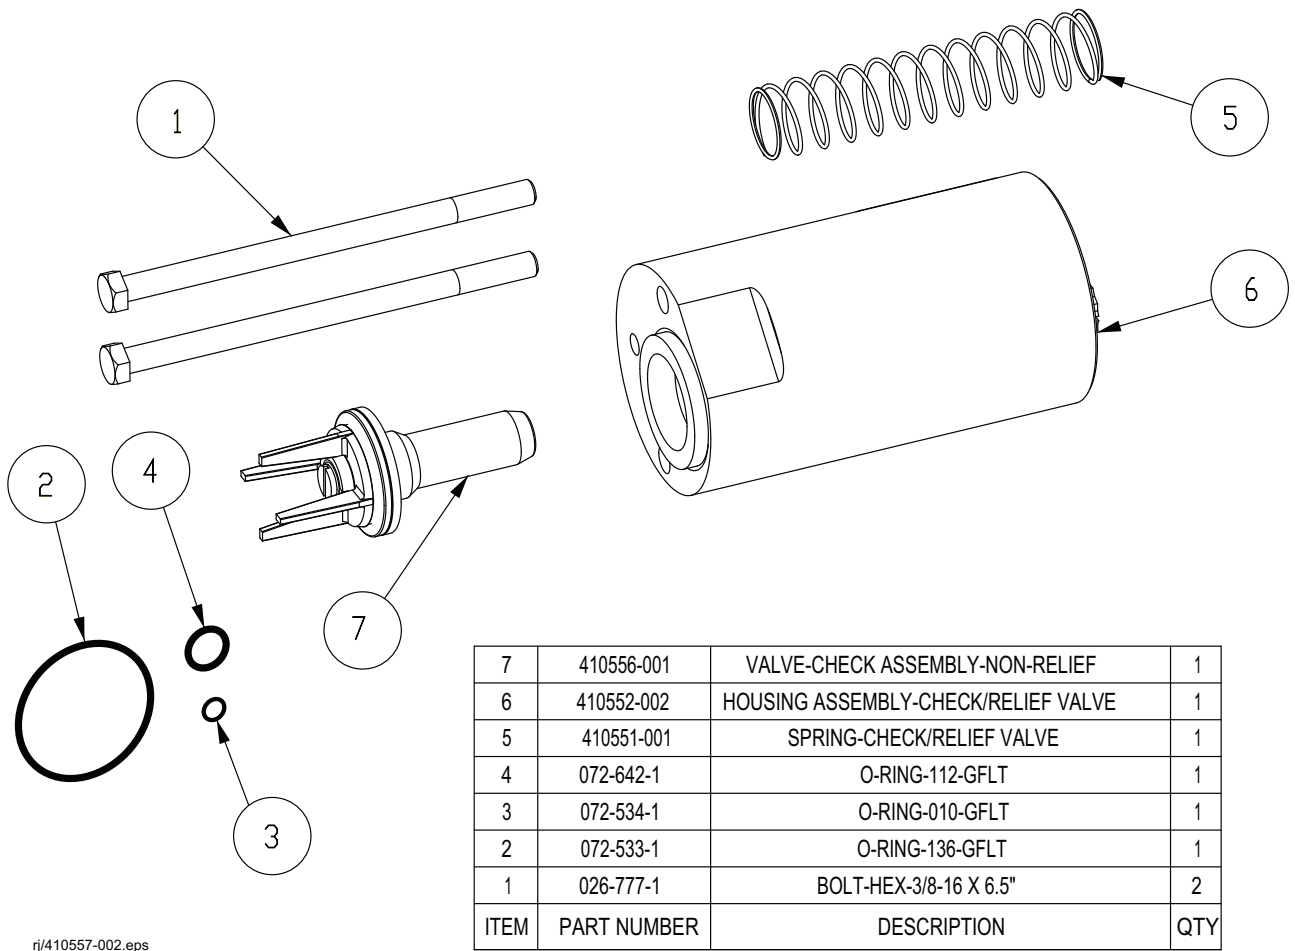

Figure 8. 410557-002 Spikecheck Check Valve (Non-Pressure Relief Version), Housing, Spring, Fasteners, Seals
- 410557-002 Spikecheck Check Valve (Non-Pressure Relief Version), Housing, Spring, Fasteners, Seals (See Figure 8).